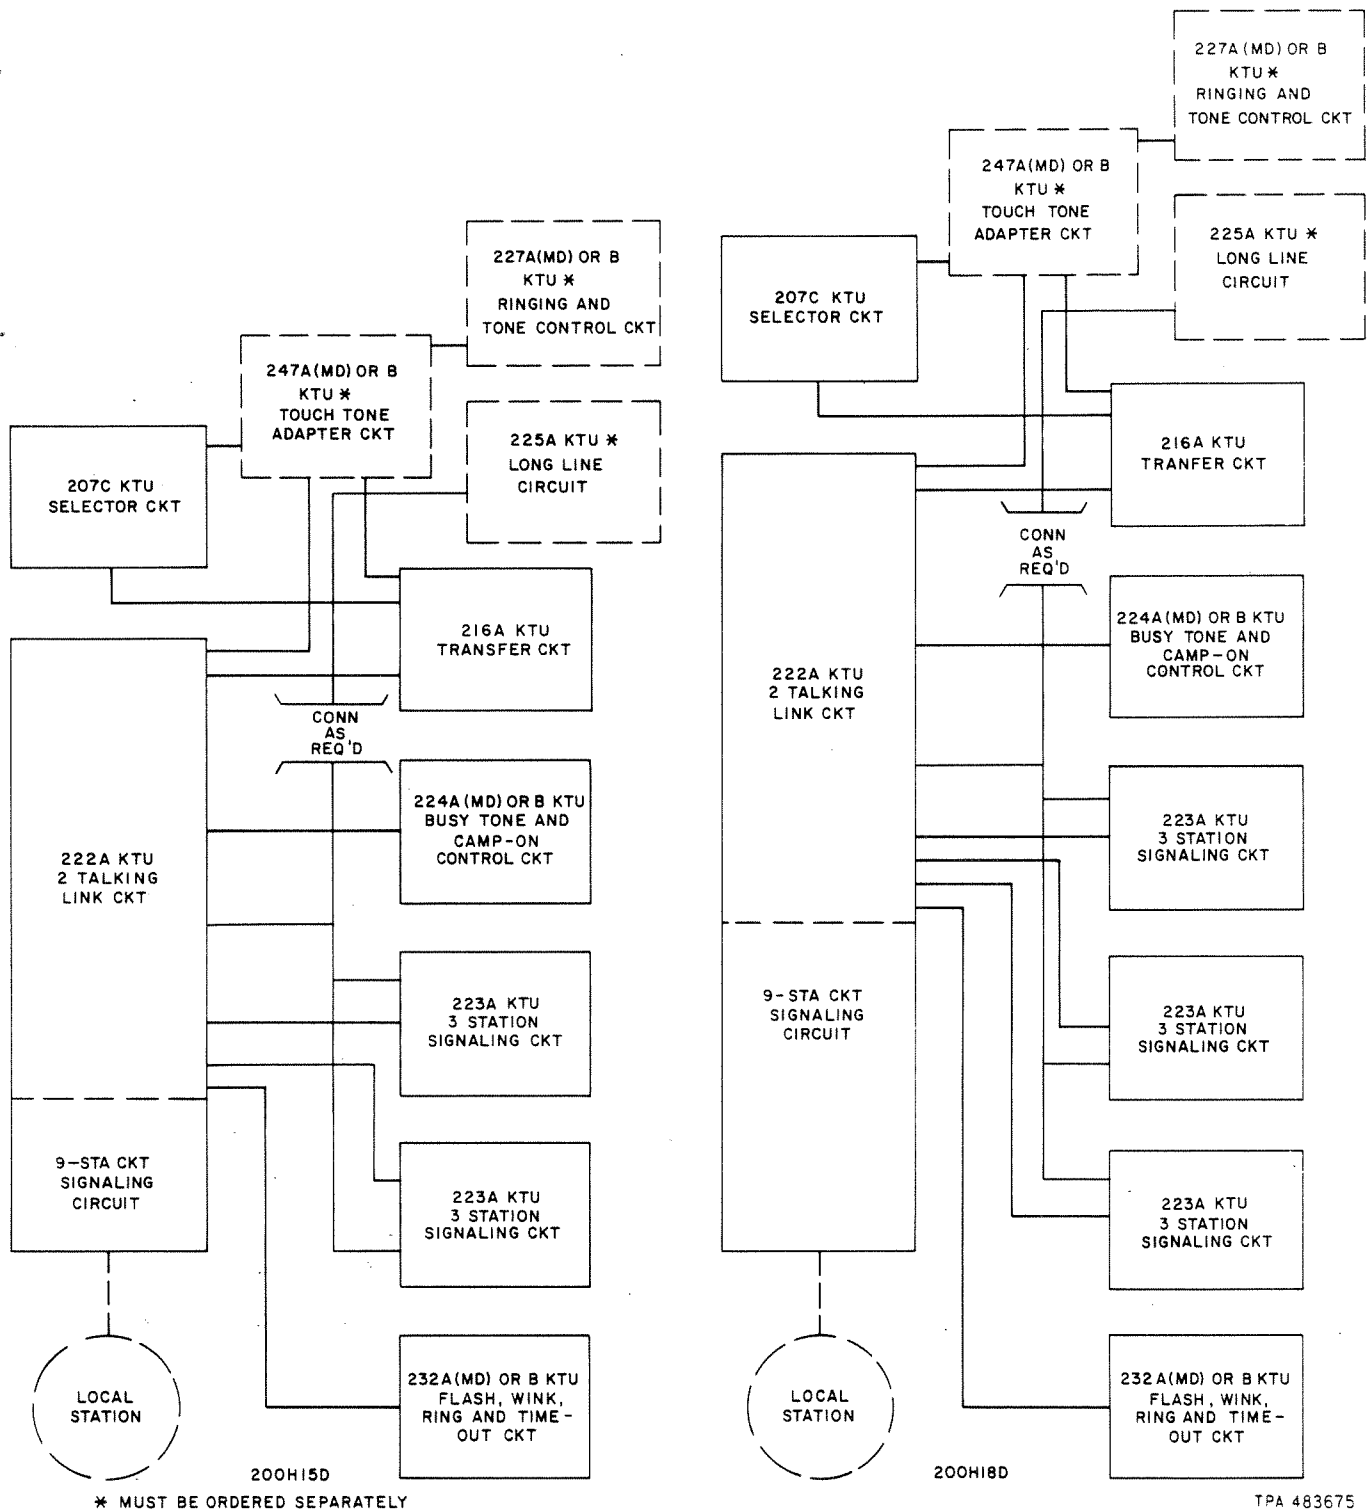

Fig. 7—200H-Type KTU, Arrangements
1.002 This addendum is issued to correct connection points of the 225A KTU in the block diagram on Fig. 7.
- (a) Fig. 7—revised